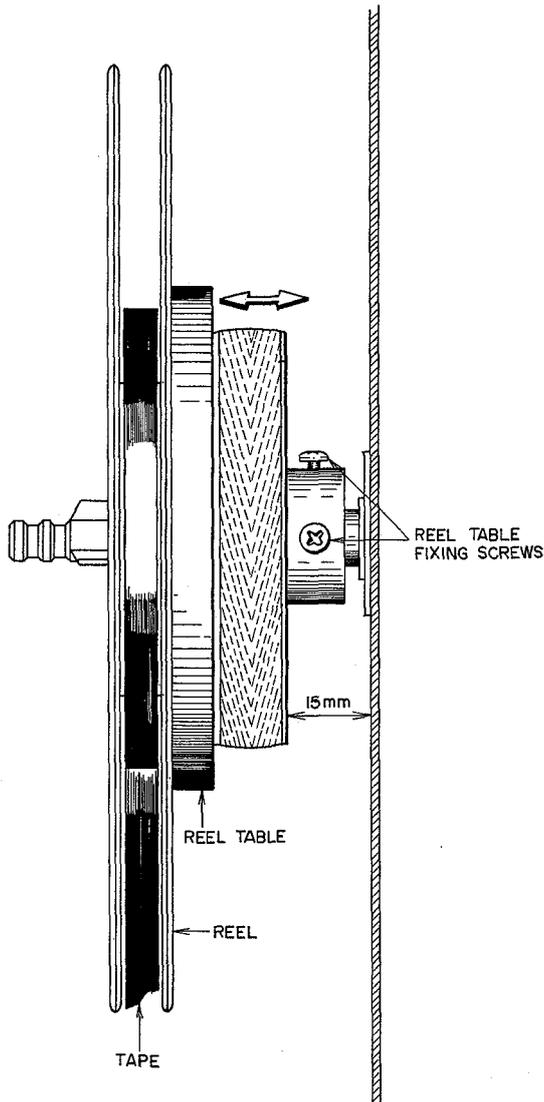

Fig. 6
4. REEL TABLE HEIGHT ADJUSTMENT (Refer to Fig. 6)